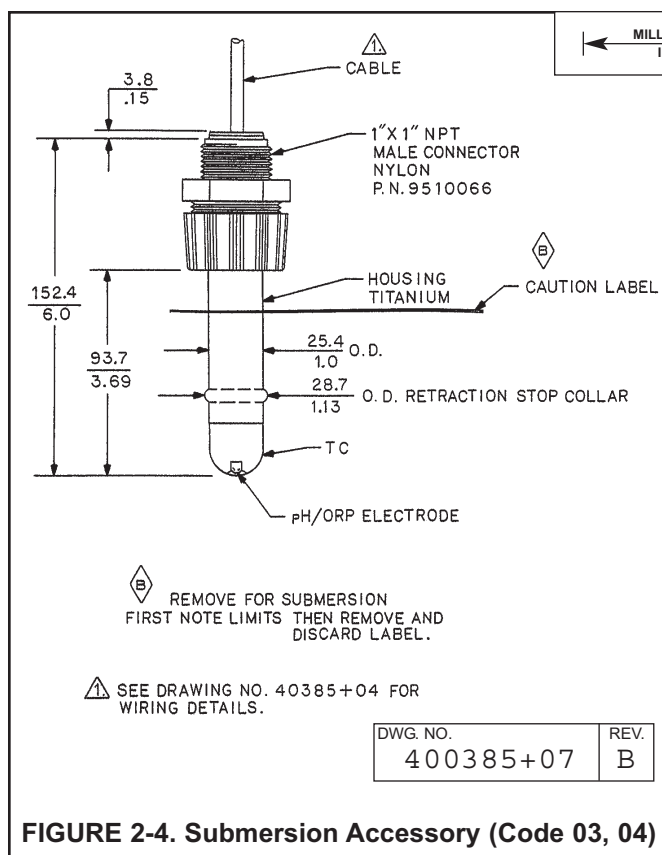
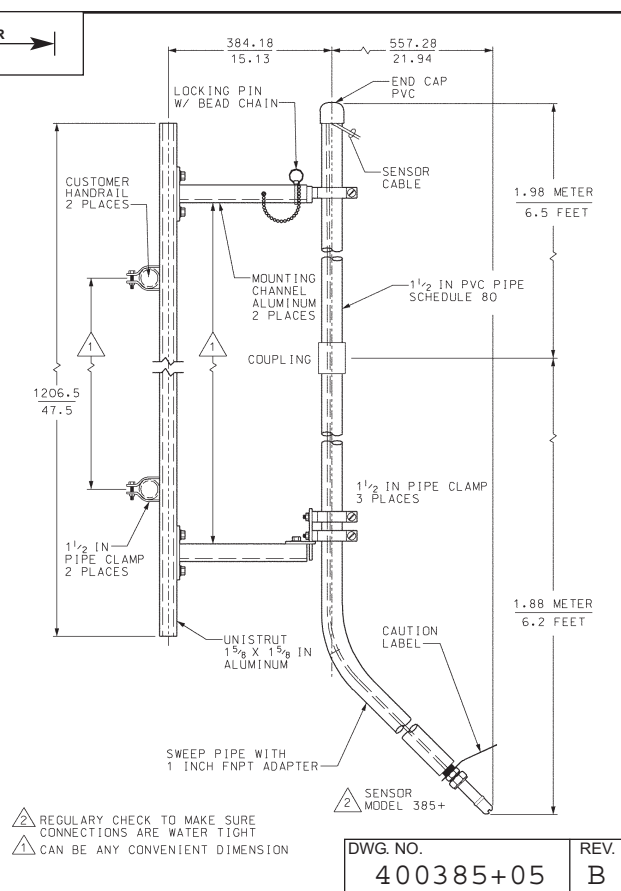

FIGURE 2-4. Submersion Accessory (Code 03, 04)
FIGURE 2-5. Submersion Installations, Handrail Mounting Assembly (P/N 11275-01)
2.2.2 Submersion/Insertion Option. Code Option -03 & -04). Figure 2-3 and Figure 2-4. The Model 385+ Sensor may be installed through a weldolet or a pipe tee or "Y" when used with a process connector (P/N 23166-00-01). For submersion service, a process connector (P/N 23166-00-01 or 9510066) may be used with a water tight 1 in. schedule 80 CPVC or PVDF standpipe conduit. Refer to Figure 2-5. Tapered threads in plastic tend to loosen after installation. It is therefore recommended that TEFLON tape be used on the threads and that the tightness of the connection be checked frequently to assure that no loosening has occurred. The sensor should be installed within 80° of vertical, with the electrode facing down.
8. Connect the sensor wires to the terminals on the printed circuit board in the junction box in the manner recommended on the junction box cover, or see Figure 2-4. Reattach the BNC connector to the preamp. Screw on the cover of the junction box.
11. Open ball valve and position the sensor at the desired insertion depth and orientation. Using a crescent or open end wrench, tighten the hex nut (B) to secure the sensor in place.